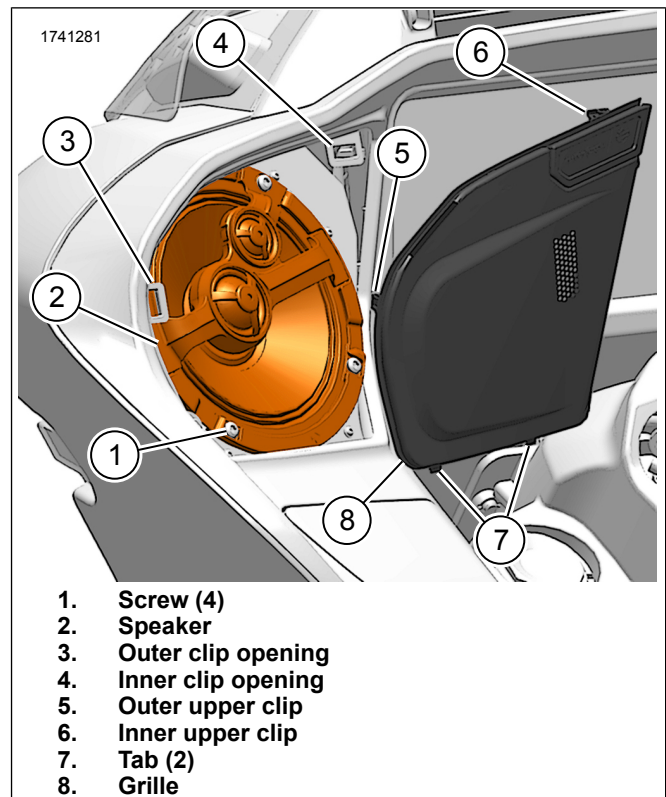
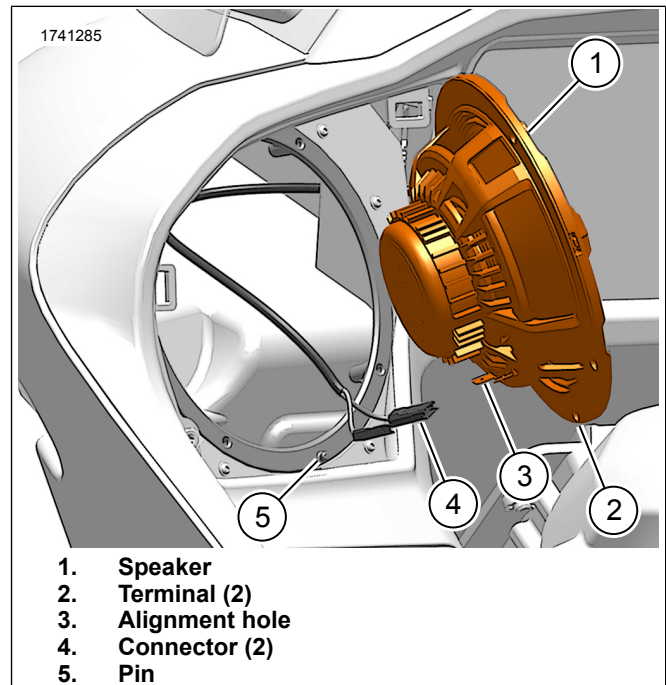

Figure 2. Speaker and Grille (Stage 2 shown, OE similar)
Figure 3. Fairing Speaker Connection
1. Figure 2 Remove Original Equipment (OE) speaker grille (8).
- a. Using a non-marring tool, pry clips (5) from clip openings (3, 4).
2. Remove speaker screws (1).
3. Figure 3 Remove OE speaker.
- a. Remove speaker (1) from fairing far enough to gain access to connectors (4).
- b. Disconnect connectors (4) from speaker terminals (2).
2. Figure 3 Install Stage I or II speaker.
- a. Connect connectors (4) to speaker terminals (2).
- b. Install speaker (1) into enclosure.
3. Figure 2 Install speaker screws.
- a. Alternately secure screws (1).
- b. Figure 2 Install lower tabs (7) onto fairing.
- c. Rotate grille (8) toward fairing.
- d. Press grille outer upper clip (5) into outer clip opening (3).
- e. Press grille inner upper clip (6) into inner clip opening (4).